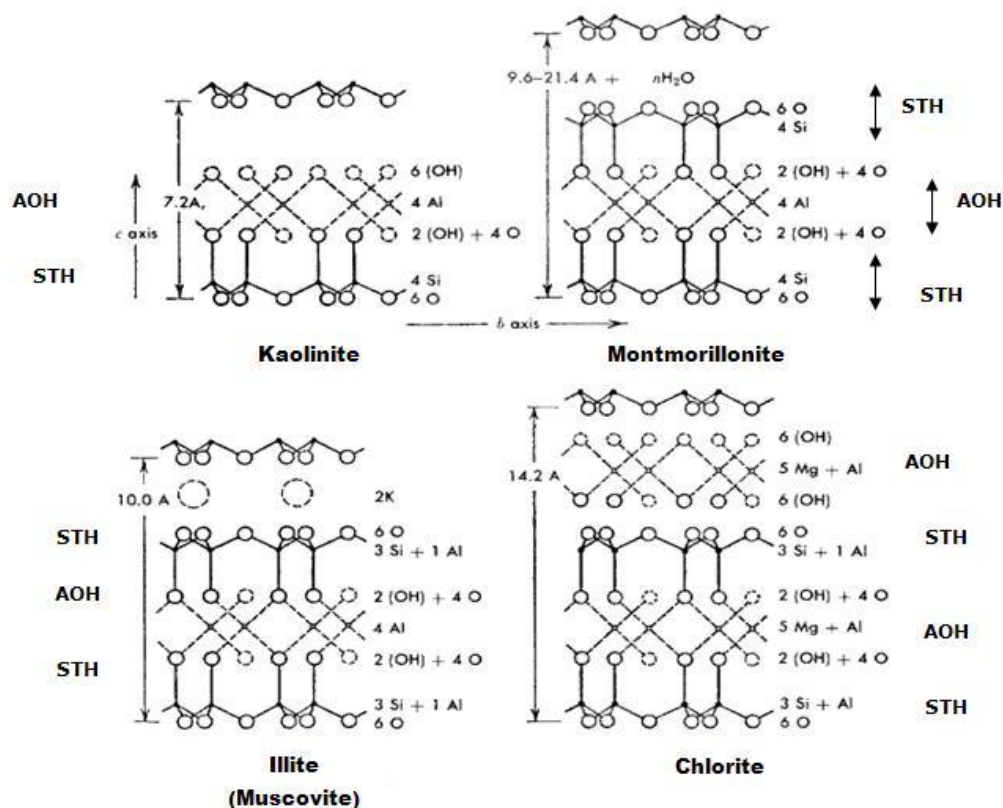

Fig.1. The structural component of silicate clays
- The tetrahedral unit is  $\text{SiO}_4^-$  in which silicon ion is equidistant from the four oxygen anions (Fig.1). It is called silica tetrahedron because of its four sided configuration.
- Aluminium and/or magnesium ions are the key cations surrounded by six oxygen atoms or hydroxyl group giving an eight sided building block termed octahedron ( Fig.1)
**(c) 2: 1: 1 (or) 2:2 Type clay minerals (Fig.1)**